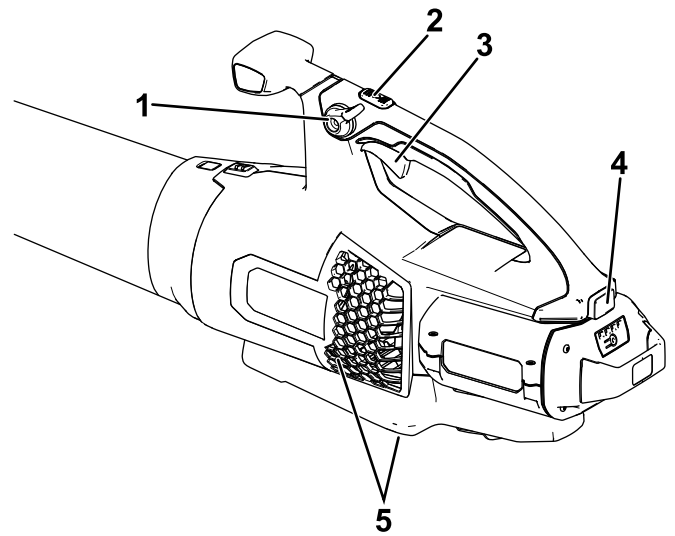

Figure 8
4. To start the blower, squeeze the variable-speed trigger (Figure 8).
**Note:** Engage the speed lock to keep the machine on without pressing the variable-speed trigger (Figure 8).
To achieve maximum performance (air speed) , press and hold the turbo boost button for the desired amount of time (Figure 8).
To adjust the air speed as you blow, use the variable-speed trigger (Figure 8).
To maintain the current air speed, engage the speed lock (Figure 8).
To shut off the blower, disengage the speed lock (if in use) and release the variable-speed trigger (Figure 8).